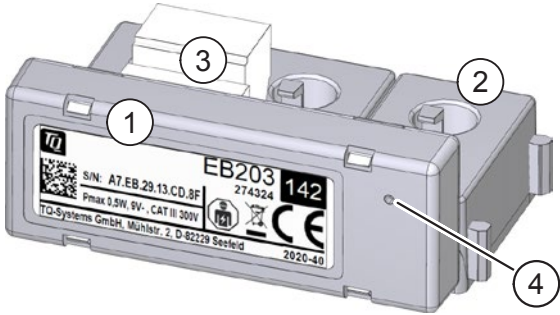

Fig. 1: Items supplied with the Sensorbar, example of EB203
10 LED on the Sensorbar (see item 4 in Fig. 1)